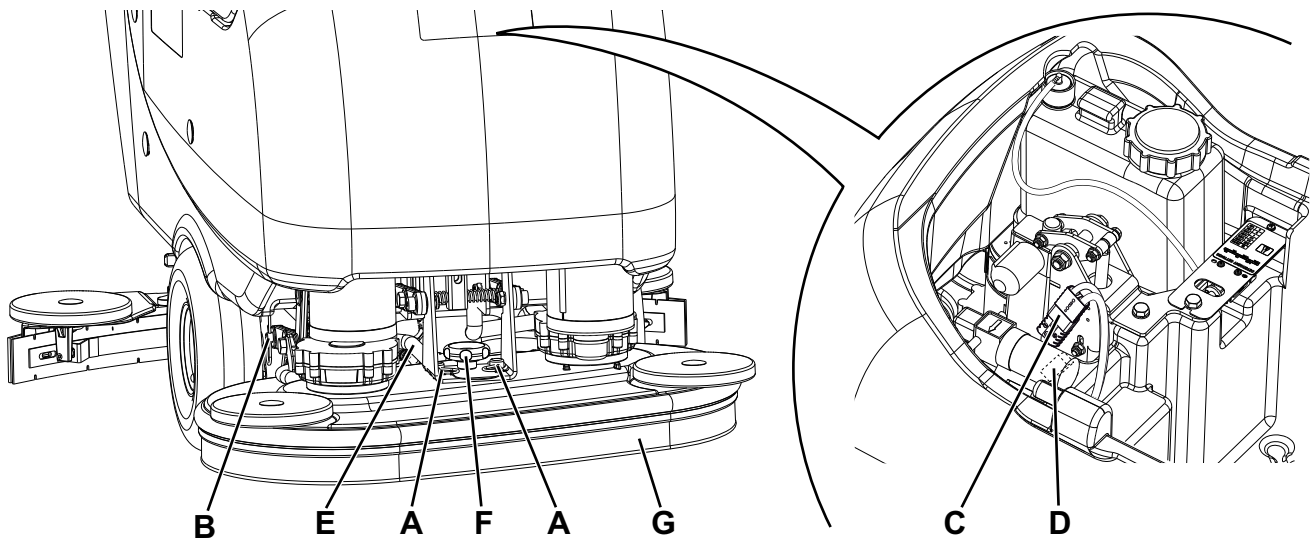

Figure 7
3. Turn the ignition key (80) to "I".
4. Lower the brush/pad-holder deck by pressing the switch (71).
5. Turn the ignition key (80) to "0".
6. Remove the safety pins (A, Fig. 7) and [for brush/pad-holder deck (18) only] the mounting pin (B).
7. Open the cover (22) and check that the recovery tank (21) is empty, otherwise empty it with the drain hose (16). Close the cover (22).
8. Grasp the handle (41) and carefully lift the tank (40) to reach the deck electrical connection.
9. Disconnect the red connector (C) and (for cylindrical brush deck only) the white connector (D).
10. Disconnect the solution hose union (E).
11. Unscrew the mounting handwheel (F), then remove the brush/pad-holder deck (G).
- When the cylindrical brush deck (19) is installed, the white connector (D) must be connected.
- When the brush/pad-holder deck (18) is installed, fasten the lever with the pin (B).